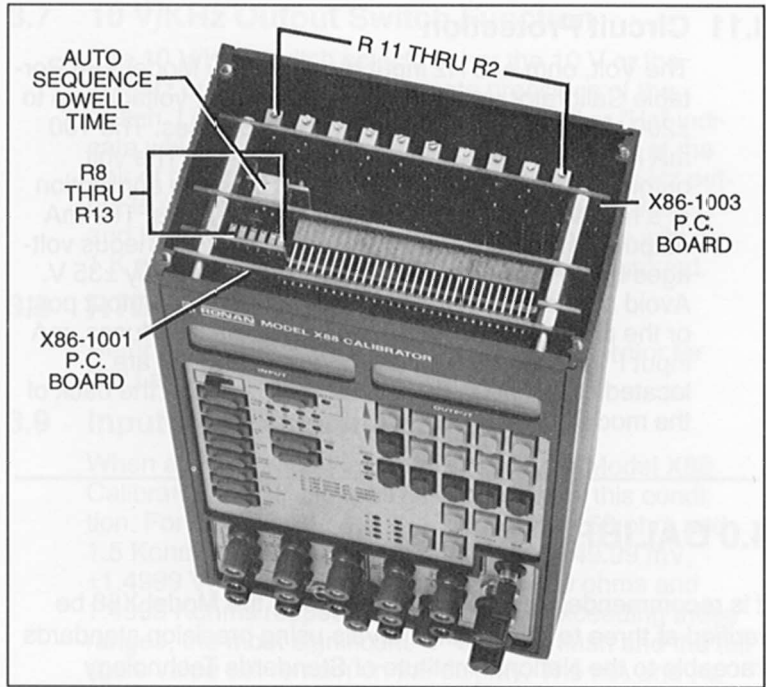

Figure 4-1: Potentiometer Access.
The push button next to the three LED's labeled "RCL", "STO" and "SEQ" functions with the five switches labeled 1 through 5. This push button, when pressed, will cause the memory function to go to a "RCL", "STO" or "SEQ" mode. When in the "STO" mode, the output value on the display can be stored into any one of the five memory locations by pressing one of the switches labeled 1 through 5. When in the "RCL" mode, any one of the values stored in memory can be recalled by pressing the appropriate switch. To cause the calibrator to automatically sequence through the stored values for "hands-off" operation, press the RCL-STO-SEQ switch until it sequences to the "SEQ" position. The calibrator will automatically step through all five memory locations, in sequence, with a "dwell" time ranging from about 5 seconds to 50 seconds. The dwell time is adjustable by means of a single turn potentiometer located at the top of the X88-1002 P.C. Board (second board from the back of the calibrator). This pot can be made accessible by removing the top cover. (This is the only potentiometer adjustment on this board, see Figure 4-1: Potentiometer Access).
4.2.1 Adjustment Potentiometers: The six potentiometers used to calibrate the input are located at the top of P.C. board X88-1001 and the potentiometers used to calibrate the output are at the top of P.C. board X88-1003. These potentiometers are accessible when the top cover of the calibrator is removed. See Figure 4-1, which shows the location of the adjustment potentiometers.